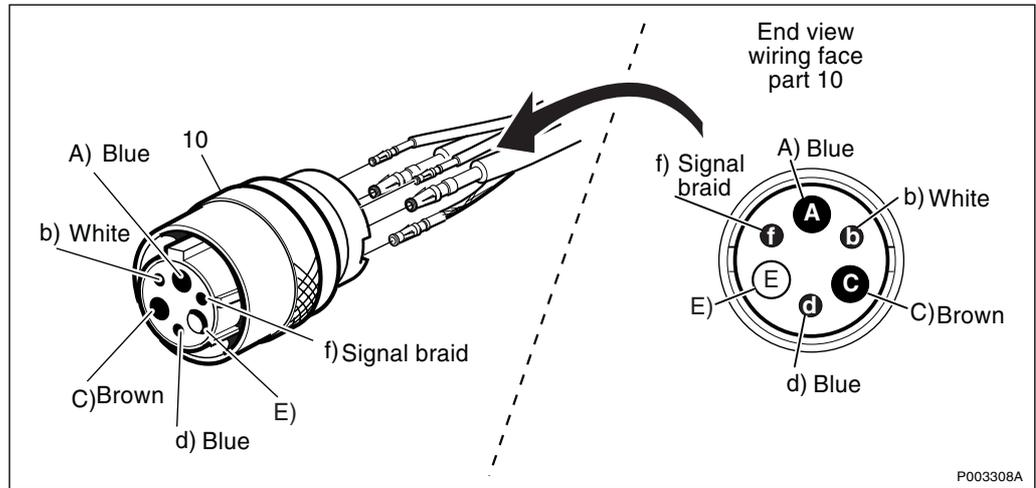
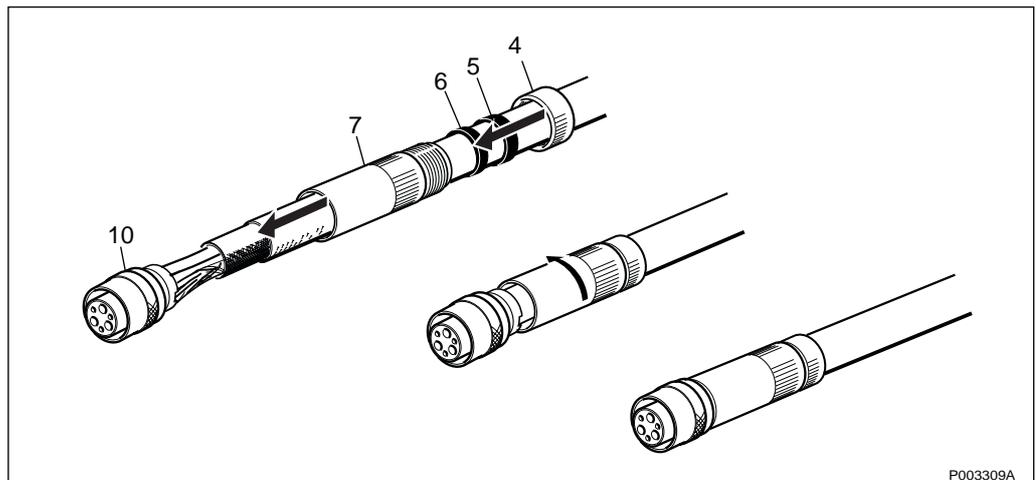

Figure 235 Connector pin overview
Figure 236 Securing the connector
6. Insert the contacts into the cavities of the front connector body (10) according to *Figure 235 on page 204*.
8. Fit front connector body (10) to barrel sub connector body and tighten to a torque of 10 Nm.
9. Slide Grommet (6) and compression ring (5) inside rear of connector body, see *Figure 236 on page 204*.